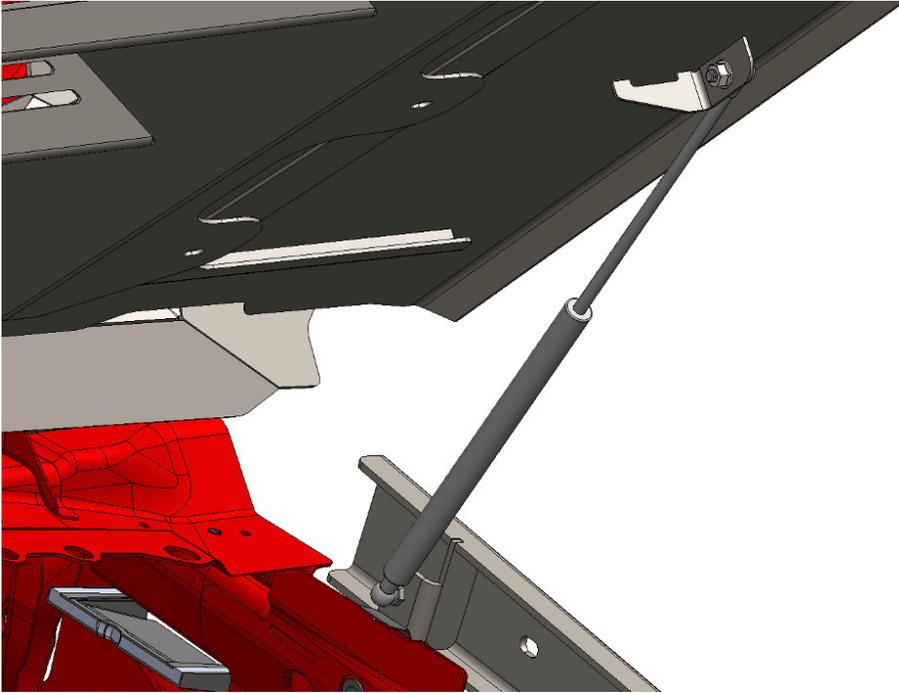

Figure 24
21. Open the hood and install the gas springs (61832) to the fender mounts and hood using the provided 5/16" nylock flange nuts. Figure 24.